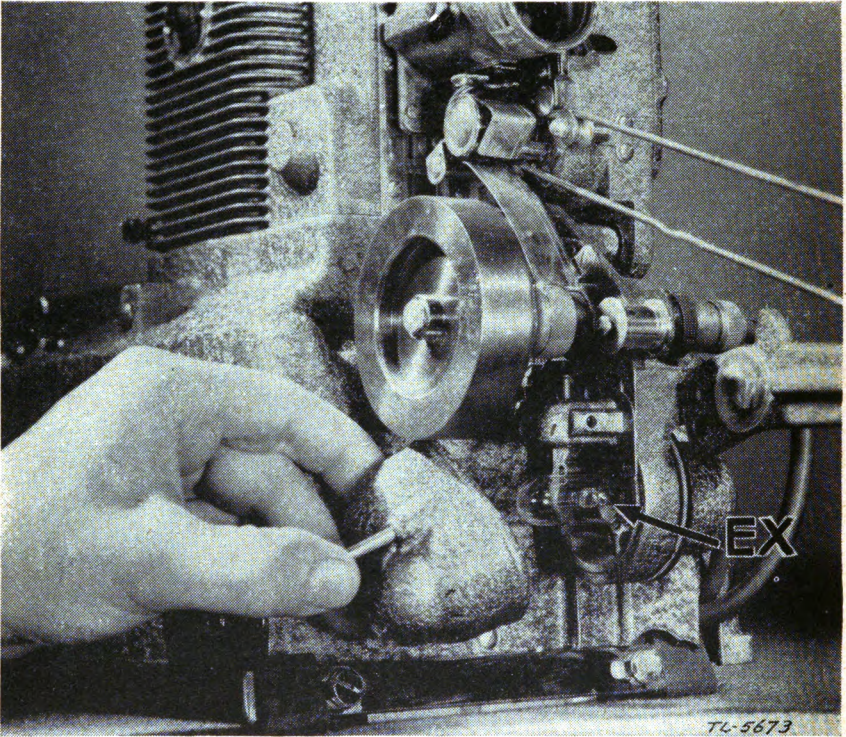

FIGURE 61.—Removing Ampro YA exciter lamp.
(2) To replace the exciter lamp, remove the two cover nuts and the lamp cover. Rotate the lamp to the left and remove. Position the new lamp and the cover. (See fig. 61.)